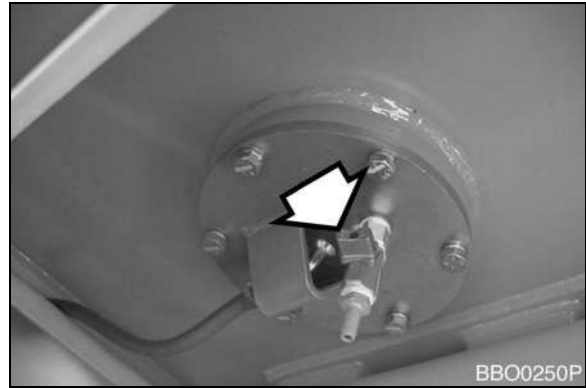

Figure 6
- Place a large enough container under fuel tank to collect remaining fuel. Open drain valve (Figure 6) at bottom of tank and drain.